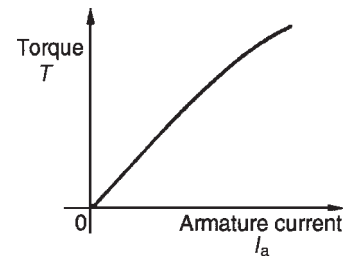

Figure 25.17
- (i) The theoretical torque/armature current characteristic can be derived from the expression $T \propto \Phi I_a$ (see Section 25.11). For a shunt-wound motor, the field winding is connected in parallel with the armature circuit and thus the applied voltage gives a constant field current, i.e. a shunt-wound motor is a constant flux machine. Since Φ is constant, it follows that $T \propto I_a$, and the characteristic is as shown in Fig. 25.17.